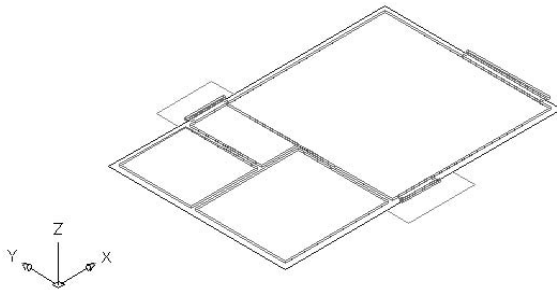

FIGURE A.13: The full floor with 12 solid boxes
5. Finally, make 2"-high boxes for the three rooms, using the inside corners and Endpoint Osnap. There will be two boxes for the living room. You will end up with 12 boxes (see Figure A.13).